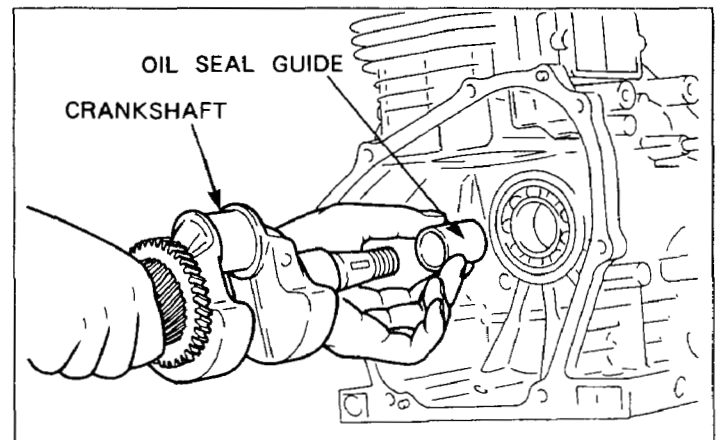

Fig. 42
(1) Install crankshaft on crankcase using an oil seal guide to avoid damage to oil seal. (See Fig. 42.)
(2) Install woodruff key for flywheel on crankshaft.